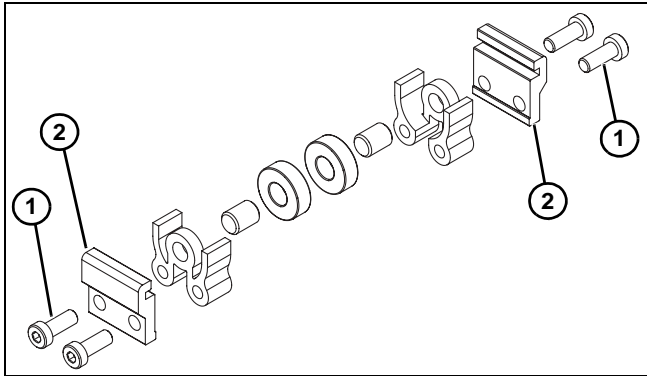
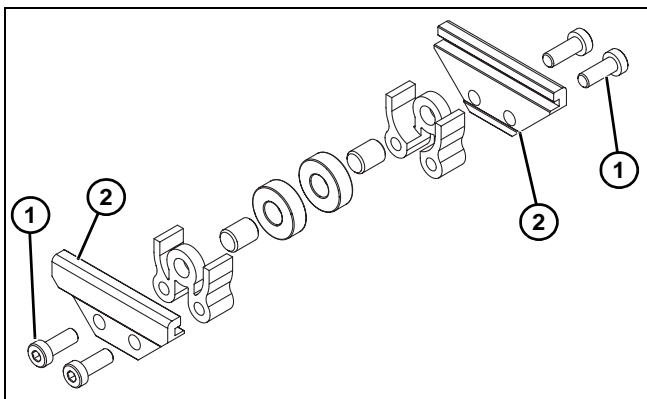

Figure 16
Figure 17
1. Locate return rollers. Exploded views shown in Figure 16 & Figure 17.
2. Remove screws (Figure 16, item 1) & (Figure 17, item 1) and clips (Figure 16, item 2) & (Figure 17, item 2) from roller assembly.